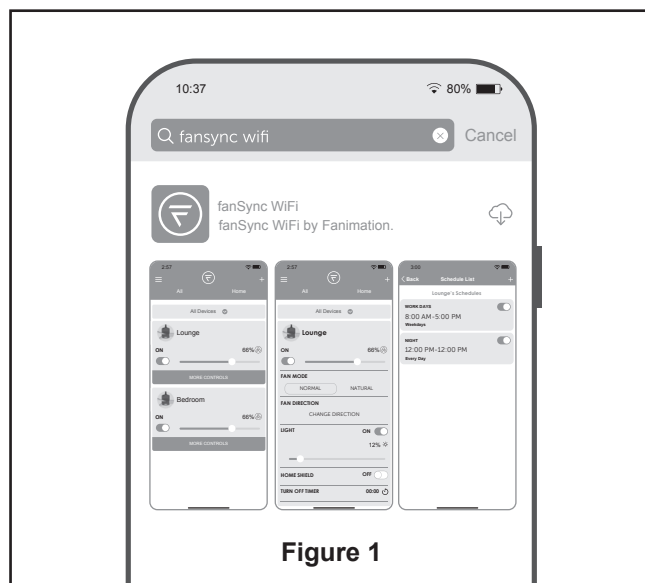

Figure 1
- ☐ 1. Installing Wall Plate: (Figure 1)
- ☐ 1. Visit the Apple APP Store or the Google Play Store to download the free fanSync WiFi APP. (Figure 1)